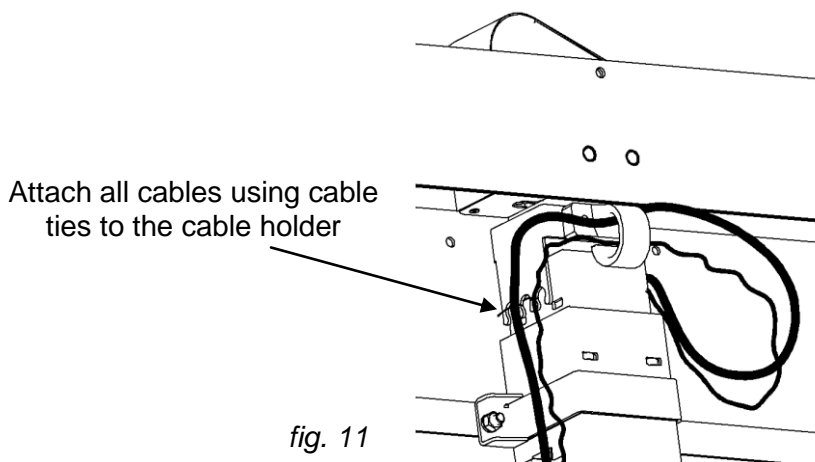

fig. 11
11. Lead all the TV cables through the cable entry. Fasten the cables with cable ties (page 15) to the self-adhesive holders (fig. 11).